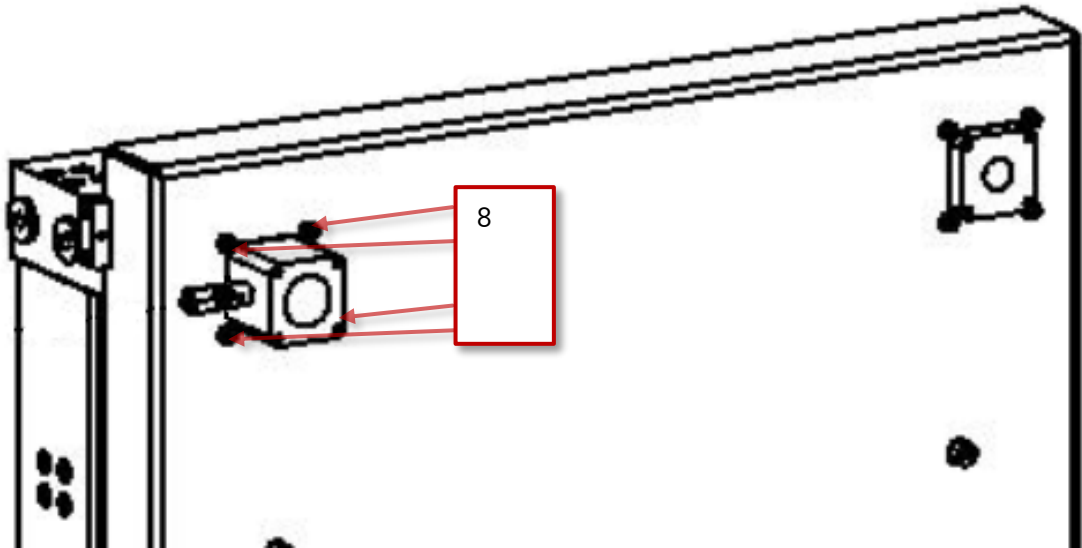

Figure 81 Loosen screws at the back
8. Loosen the four screws (M5) at the back of the generator around the water connection out unit, see Figure 81.